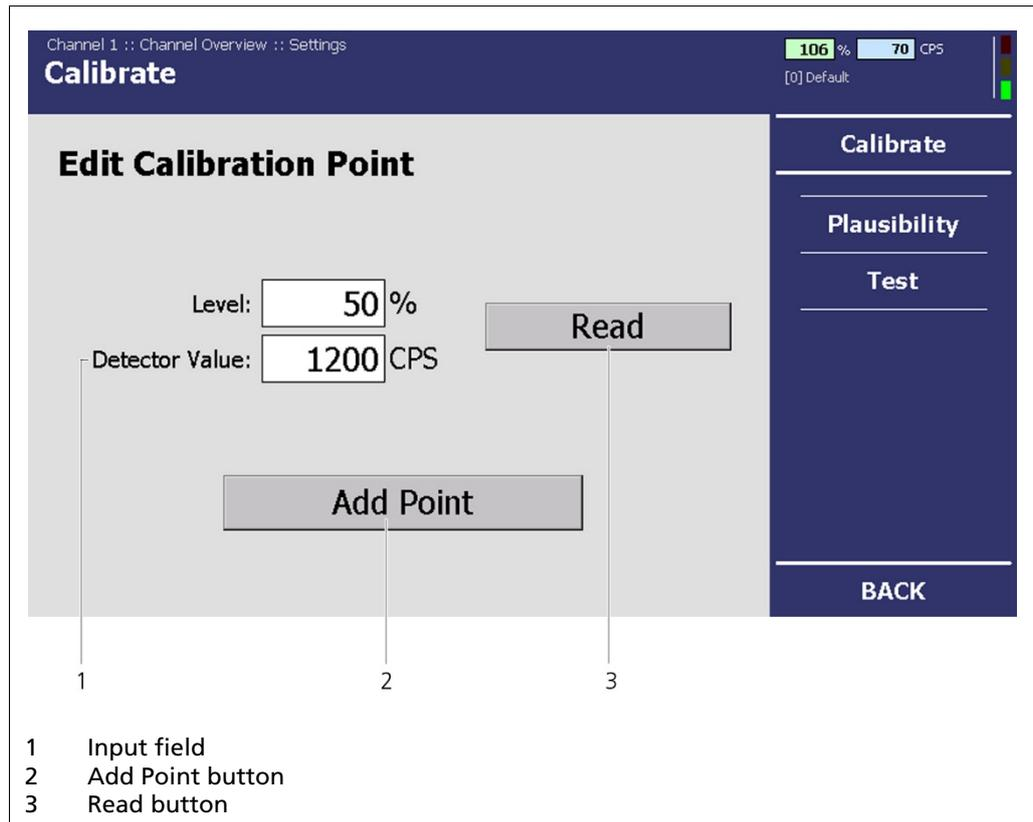

Fig. 57 System Menu, Settings - Calibration (Adapt Calibration Point)
- ▶ By clicking on <Read in>, the calibration point is automatically read in (Fig. 57). The duration of the read-in process depends on the settings applied in the menu **Settings | Calibration | Plausibility**. Further information on the settings can be found in **chapt. 7.2.1 Calibration** in the "Plausibility" sub-menu.
- ▶ The EVU is in "Calibration (CAL)" mode (Display in Fig. 57, Item 1), as long as calibration is being carried out.